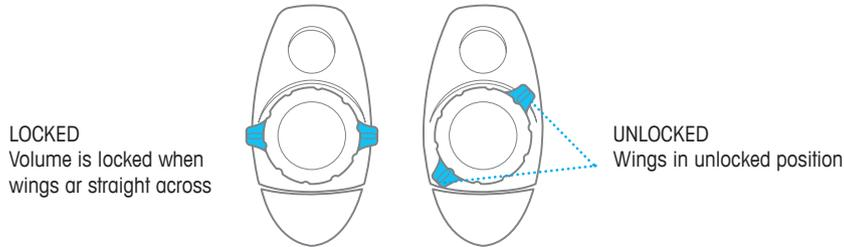
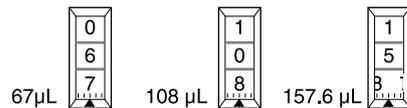

Figure 2: Volume Lock Control
Figure 4: Example volumes
1. Turn the volume lock lever to the “unlock” position so the volume setting mechanism is unlocked and free to turn. See left image in Figure 2.
4. Turn the volume lock to the “lock” position (Fig. 2 above) to prevent changes to the volume setting. Some volumes for the 200  $\mu$ L model are shown in Figure 4.